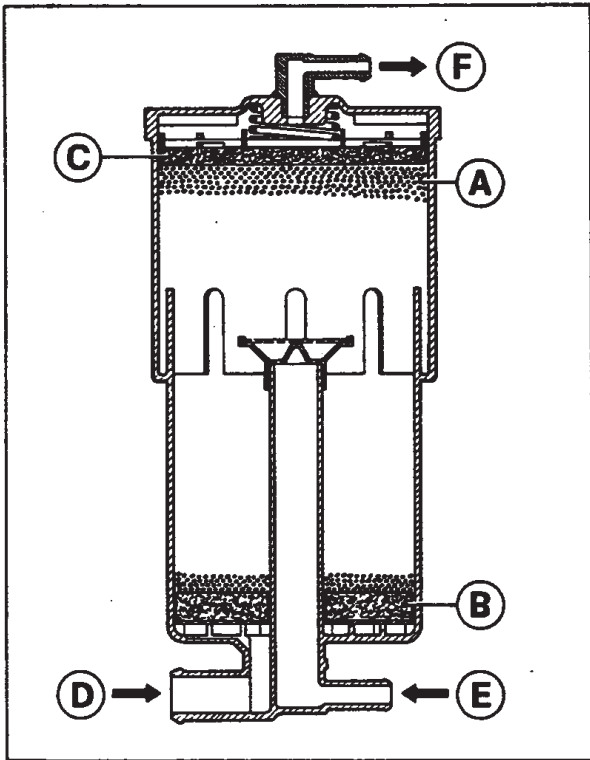

Fig. 20 - ACTIVATED CARBON TRAP
- Charcoal canister (activated carbon trap) (see fig. 20).